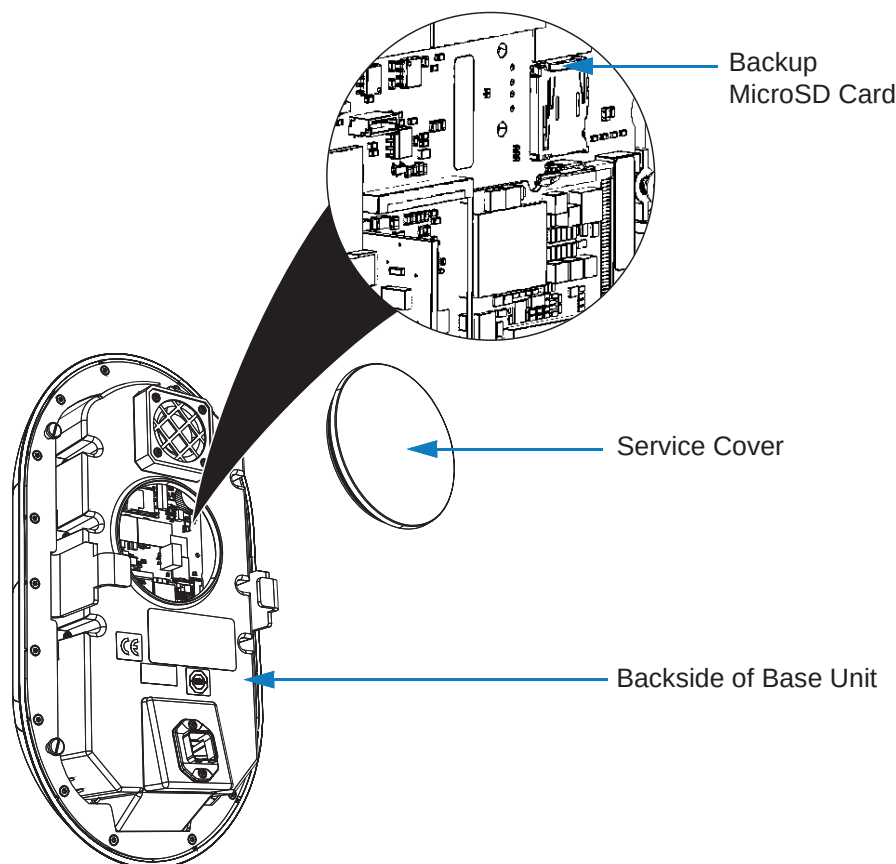

Figure 9-15 Location of Backup MicroSD Card
The drawing in **Figure 9-15** shows where to remove and replace the backup microSD card in the base unit.
- Step 2** Remove the service cover as shown in **Figure 9-15**.
- Step 4** To replace, push the backup microSD card into the respective slot (**Figure 9-15**) until it clicks into place.
- Step 5** Close the service cover, see **Figure 9-15**.